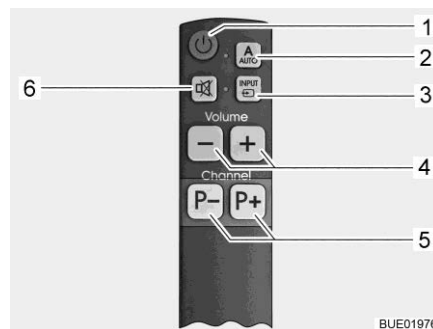

Fig. 55 Simplified remote control (optional)
- Press the AUTO button (Fig. 54,2 or Fig. 55,2) for 1 second. Thus, the television and the advance unit are switched on.
- Press the programme selection buttons (Fig. 54,4 or Fig. 55,5) until the desired TV programme has been selected.
- Press the INPUT button (Fig. 54,3 or Fig. 55,3) repeatedly until the desired signal source has been selected.
- To return to the satellite channels display, press the INPUT button (Fig. 54,3 or Fig. 55,3) repeatedly until the signal source DVB-S2 has been selected.
- Press the AUTO button (Fig. 54,2 or Fig. 55,2).
- Press the Television on/off button (Fig. 54,1 or Fig. 55,1). The advance unit is not switched on, the antenna remains in parking position.
- Press the INPUT button (Fig. 54,3 or Fig. 55,3) repeatedly until the desired signal source (e.g. DVD) has been selected.
- Press the Television on/off button (Fig. 54,1 or Fig. 55,1) to switch the television off.